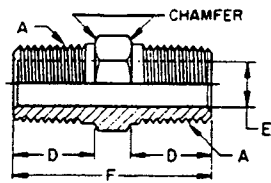

FIGURE 1—HEXAGON NIPPLE
1. Scope—This SAE Standard includes complete general and dimensional specifications for those types of pipe fittings commonly used in the automotive and other mass production industries where the use of lubricants or sealers is objectionable. The automotive pipe fittings shown in Figures 1 to 17 and Tables 1 to 6 are intended for general automotive and similar applications involving low or medium pressures or in conjunction with automotive tube fittings in piping systems.
TABLE 1—DIMENSIONS OF HEXAGON NIPPLES AND REDUCER NIPPLES (FIGURES 1 AND 2)
TABLE 1—DIMENSIONS OF HEXAGON NIPPLES AND REDUCER NIPPLES (Figures 1 and 2) (Continued)